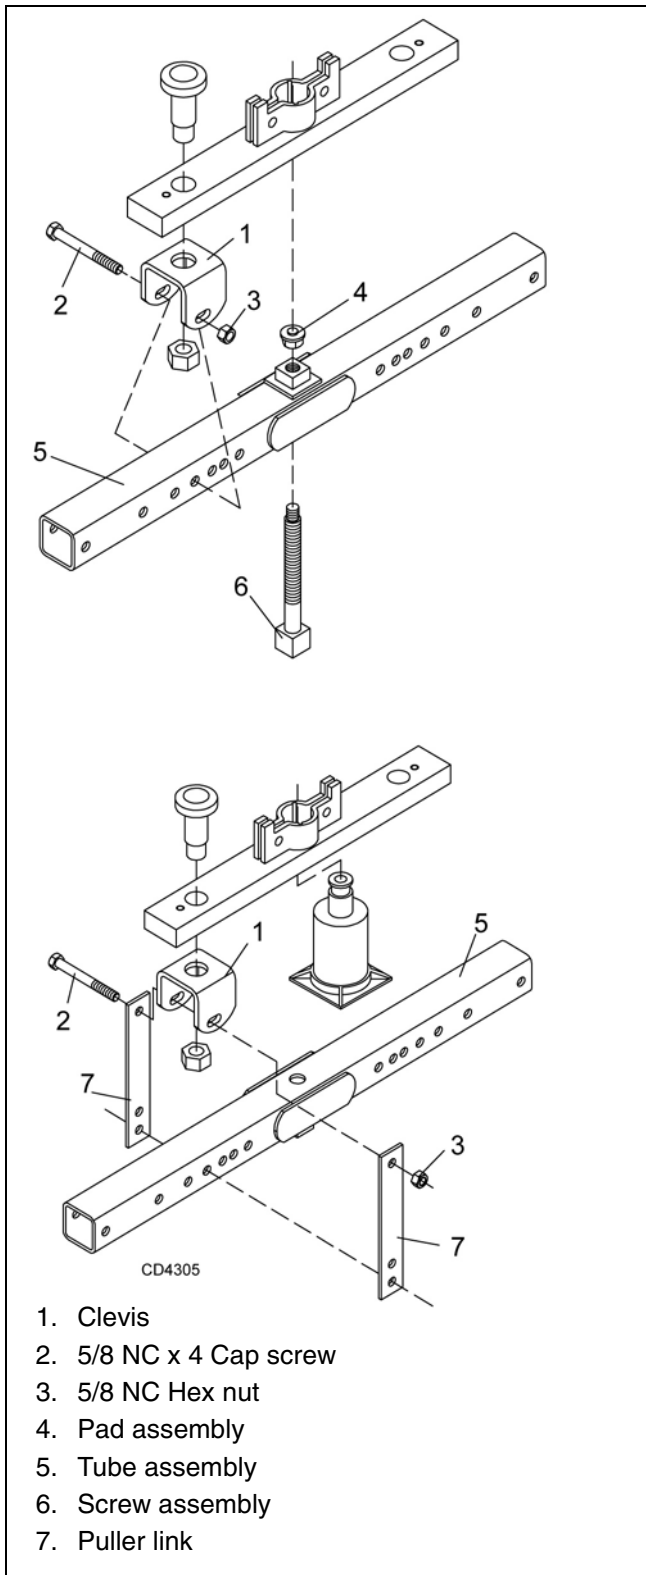

Figure 18. Crossbar Removal
NOTE: You will need to use either the puller screw (Item 6, Figure 18) or a small hydraulic jack to remove the crossbar.
4. Refer to Figure 18. Attach a clevis (1) to each end of crossbar, using blade pins and nuts.
5. Position tube assembly (5) with threaded nut toward crossbar for puller screw removal or down for hydraulic jack removal.
6. For removal with puller screw, attach tube (5) to each clevis with bolts (2) and nuts (3). Place pad (4) in nut and thread puller screw (6) into nut from bottom. Tighten until pad is solid against gearbox shaft. For best results, strike head of puller screw with a hammer while tightening with a wrench.
7. For removal with a jack, attach tube to each clevis with puller links (7), bolts (2), and nuts (3). Place jack on tube with end of jack pressing against gearbox shaft. Slowly apply force with jack.